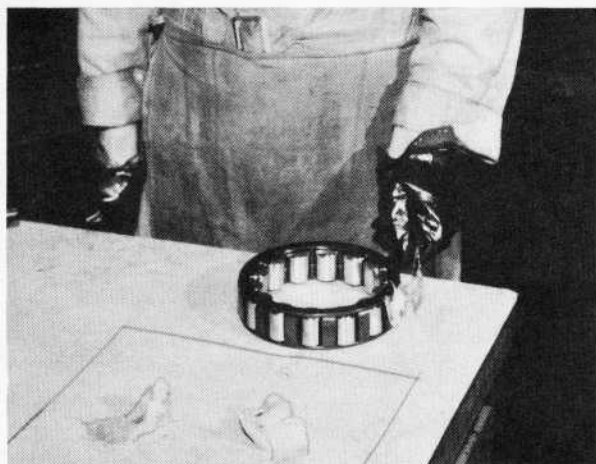

Fig. 9 - Coating O.D. Of Roller And Cage Assembly
- a. Remove roller-cage assembly from outer race and with spatula work grease into O.D. of the roller-cage assembly, Fig. 9, coating the rollers and spreading grease into cage pockets.